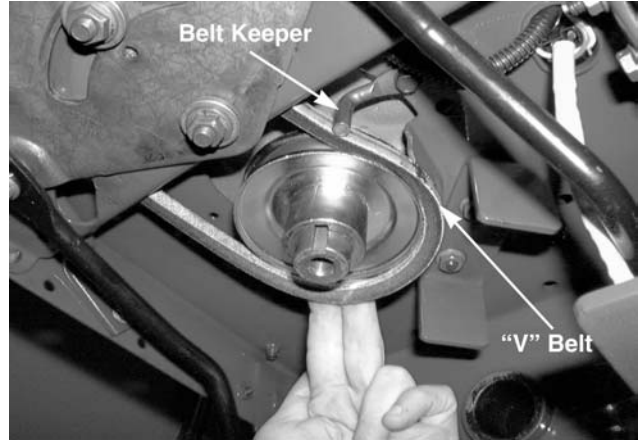

Figure 9-45
11. Grasp the drive pulley and pull downward until the "V" belt is clear of the belt keepers at the engine. See Figure 9-45.